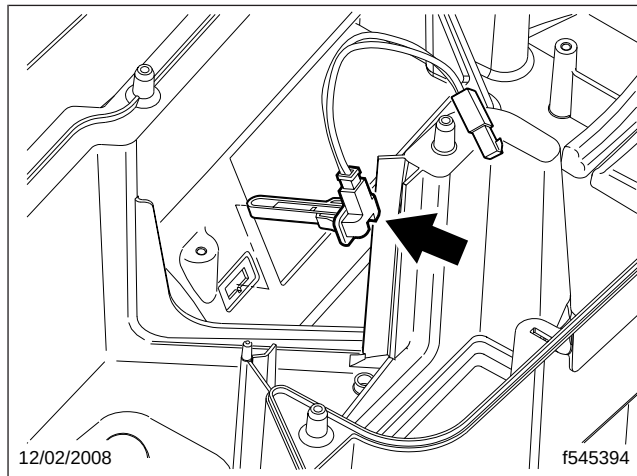

Fig. 8, Ambient Air Temperature Sensor Installation
20. Remove the ambient temperature sensor. See Fig. 8.
23. Connect the wires from the controller to the compressor motor and temperature sensor. See Fig. 8. Install the cap.